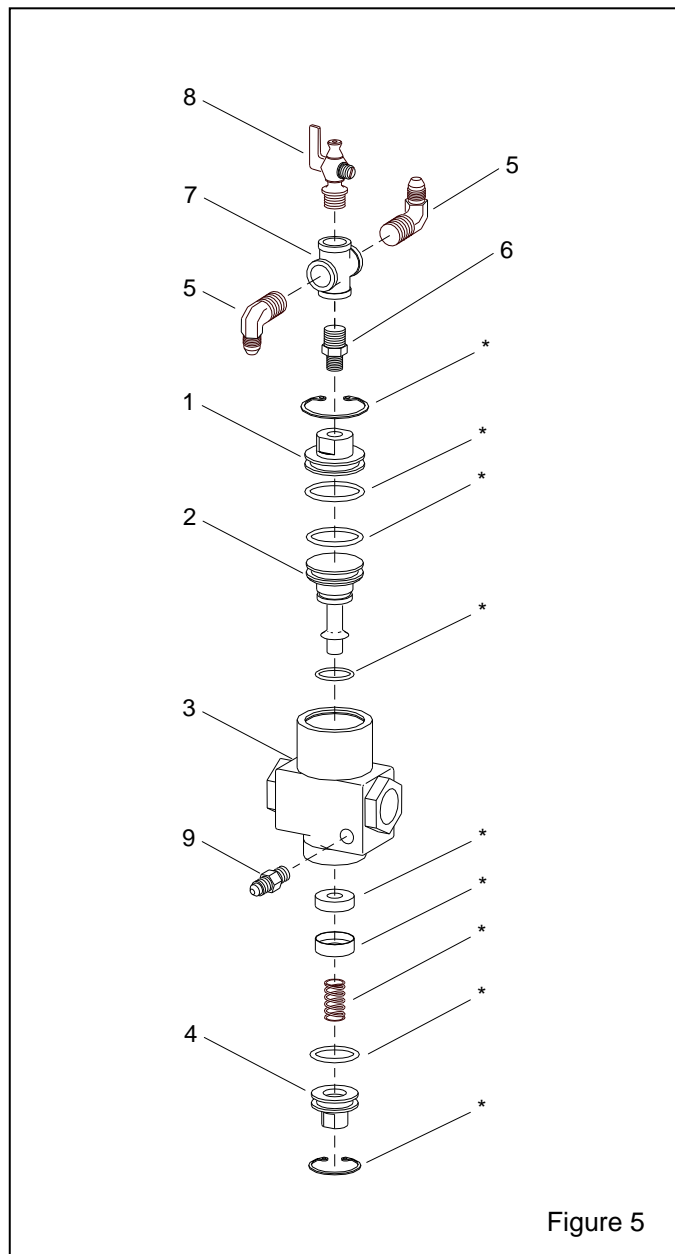

Figure 5
5.1.8 Lubricate all o-rings, and use the illustration in Figure 5 as a guide to reassemble the valve in reverse order, assembling the top end first.
6.1.4 With the control handle lever up, check for air escaping through the opening under the control handle lever. If no air is escaping, the orifice on the inlet valve (Figure 5, item 9) is blocked, or the outbound line from the orifice to the control handle is blocked and must be cleared.
6.2.3 Make sure the lower fitting on the inlet valve (Figure 5, item 9) has not been switched for a fitting with a full-flow orifice. The orifice on the 1/8" NPT end of the fitting must be 1/16" diameter.
7.5 Inlet Valve, Figure 5